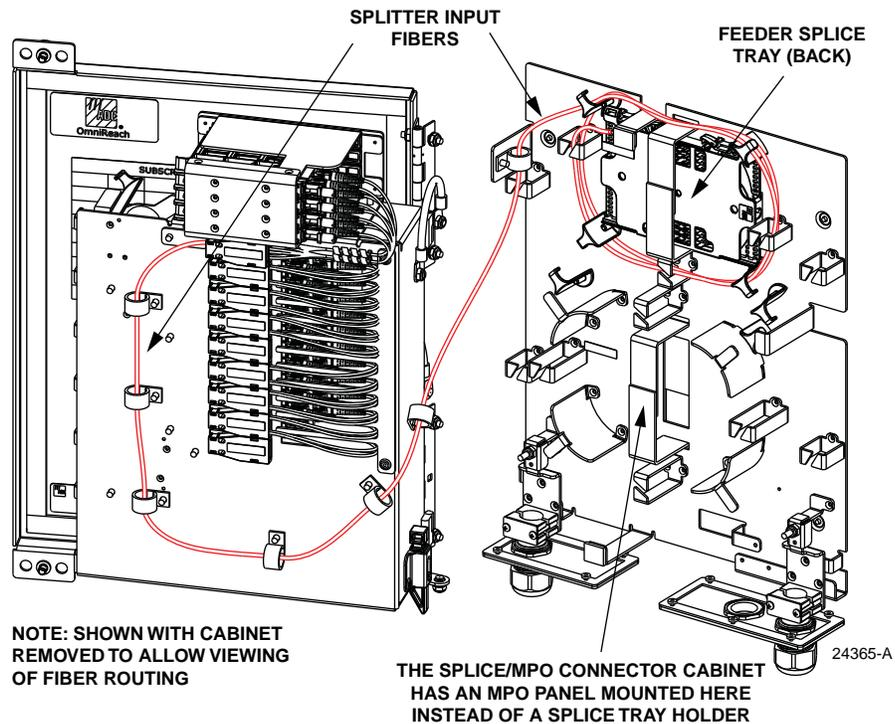

Figure 19. Feeder Splice Tray and Splitter Input Fiber Routing
1. Locate the feeder cable splice tray which is mounted at the top of the cabinet, as shown in Figure 19, and locate the splitter input fibers which are routed to the feeder splice tray.